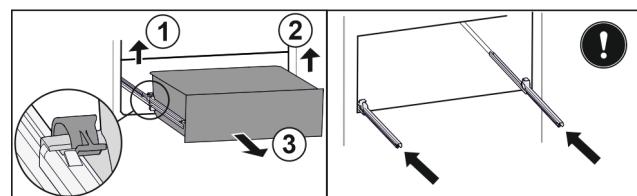

Fig. 121
- ▶ Lift left clamp and simultaneously pull drawer forwards on the left. Fig. 121 (1)
- ▶ Lift right clamp and simultaneously pull drawer forwards on the right. Fig. 121 (2)
- ▶ Remove drawer to the front. Fig. 121 (3)